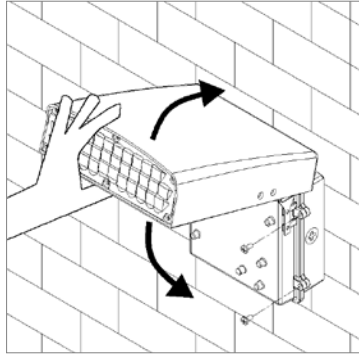

FIGURE 4
- Close back housing and tighten the two screws (see FIGURE 4).